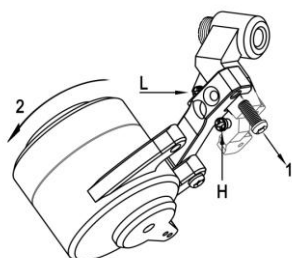

Fig4
**C. Adjusting the H/L/B screws:** First, loosen screw No. 1, then turn the derailleur body counterclockwise until the **High-limit (H)**, **Low-limit (L)**, and **B-tension (B)** screws can be adjusted. After finishing the adjustment, push the derailleur body back into position and tighten screw No. 1 (see Figure 4).